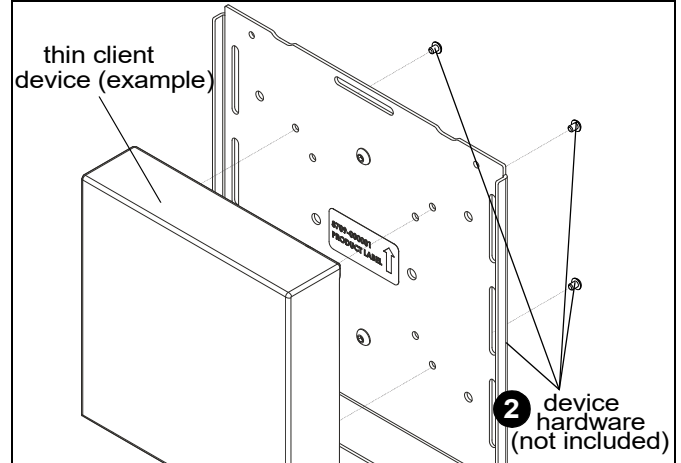

Figure 7
2. (If applicable) Use hardware from thin client device to mount device to bracket (E) using either 75mm or 100mm VESA pattern. (See Figure 7)